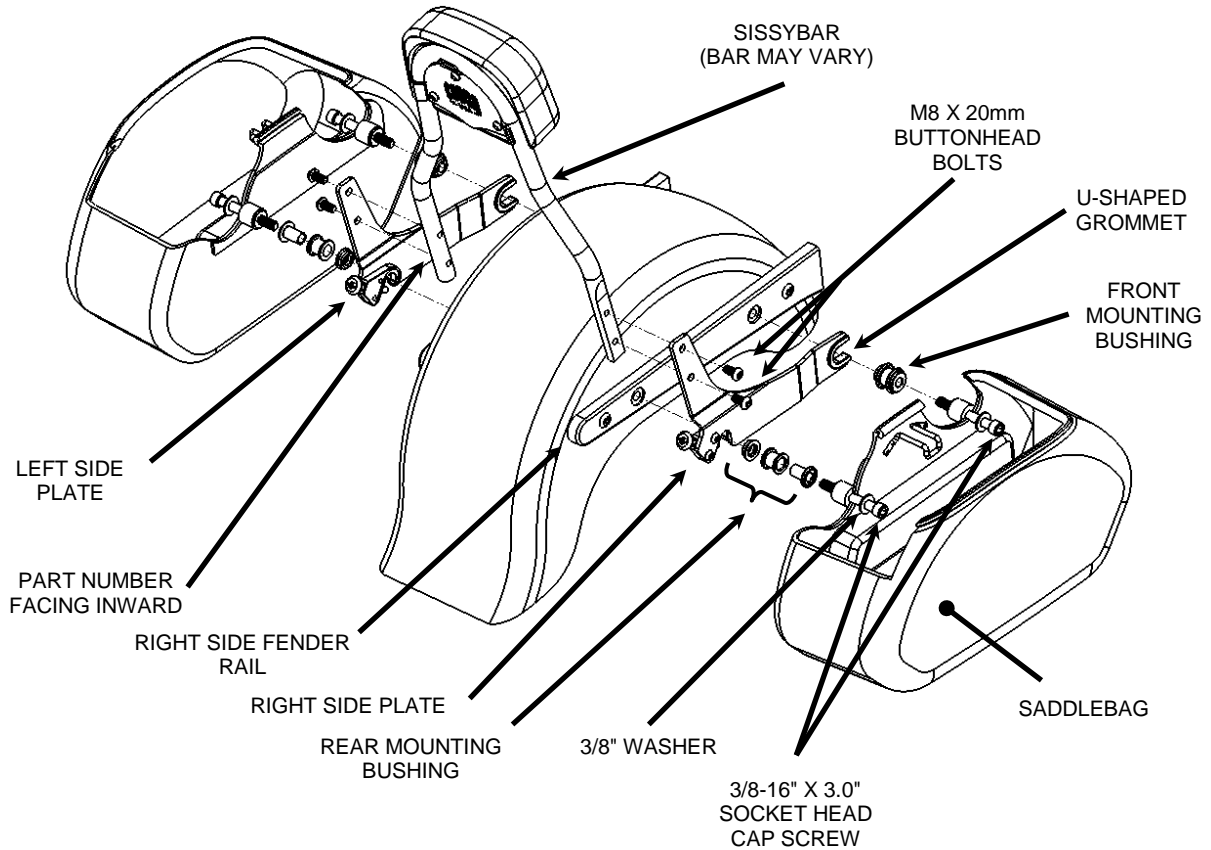

FIGURE 2
2. Remove the o-rings from the front and rear screws and remove the stock inner spacers (the one closer to the fender rail), and stock bolts from the saddlebags. Insert (1) of the supplied 3/8-16 X 3.0" screws through (1) supplied 3/8" washer, the front saddlebag mount hole and the supplied front backrest bushing, see **Figure 2**. Insert (1) of the supplied 3/8-16 X 3.0" screws through (1) supplied 3/8" washer, the rear saddlebag mount hole and the supplied rear backrest bushing. Place sufficient blue loctite on both screws. Do not install original o-rings. Reinstall the right bag carefully on to the lower front mount and then thread in the new screws being sure the spacers are in place correctly and centered in the fender rail. Snug the bolts but do not fully tighten at this time.
3. Repeat, Steps 1 and 2 for left side saddlebag using **Figure 2**, be sure to orientate all parts correctly.
4. Install the supplied side plates on to the sissy bar with the four M8 X 20mm button head bolts. Make sure the u-shaped grommets are facing the same direction as the sissy bar pad, (forward) and the part numbers are facing inward on the left and right side toward the motorcycle fender rails. See **Figure 2**. Snug the bolts but **DO NOT TIGHTEN** at this time.